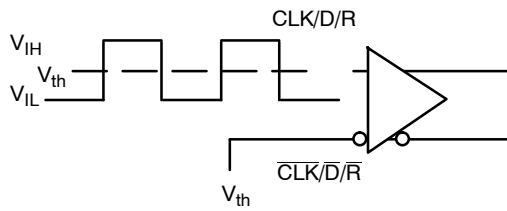

Figure 4. Differential Input Driven Single-Ended
**DIFFERENTIAL INPUT DRIVEN SINGLE-ENDED** (Figures 4 & 7)